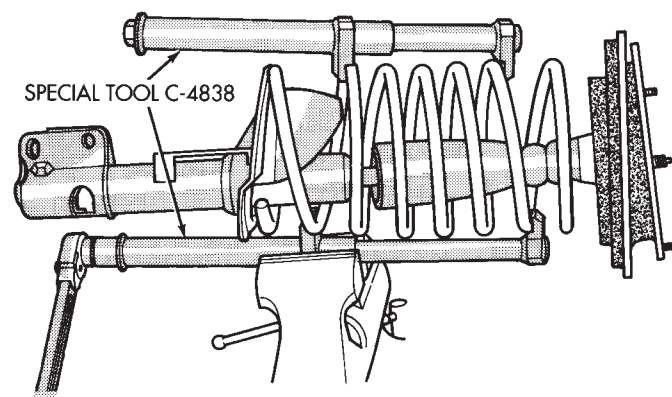

Fig. 3 Compressing Coil Spring
(1) Compress front coil spring with Spring Compressor, Special Tool C-4838 (Fig. 3).